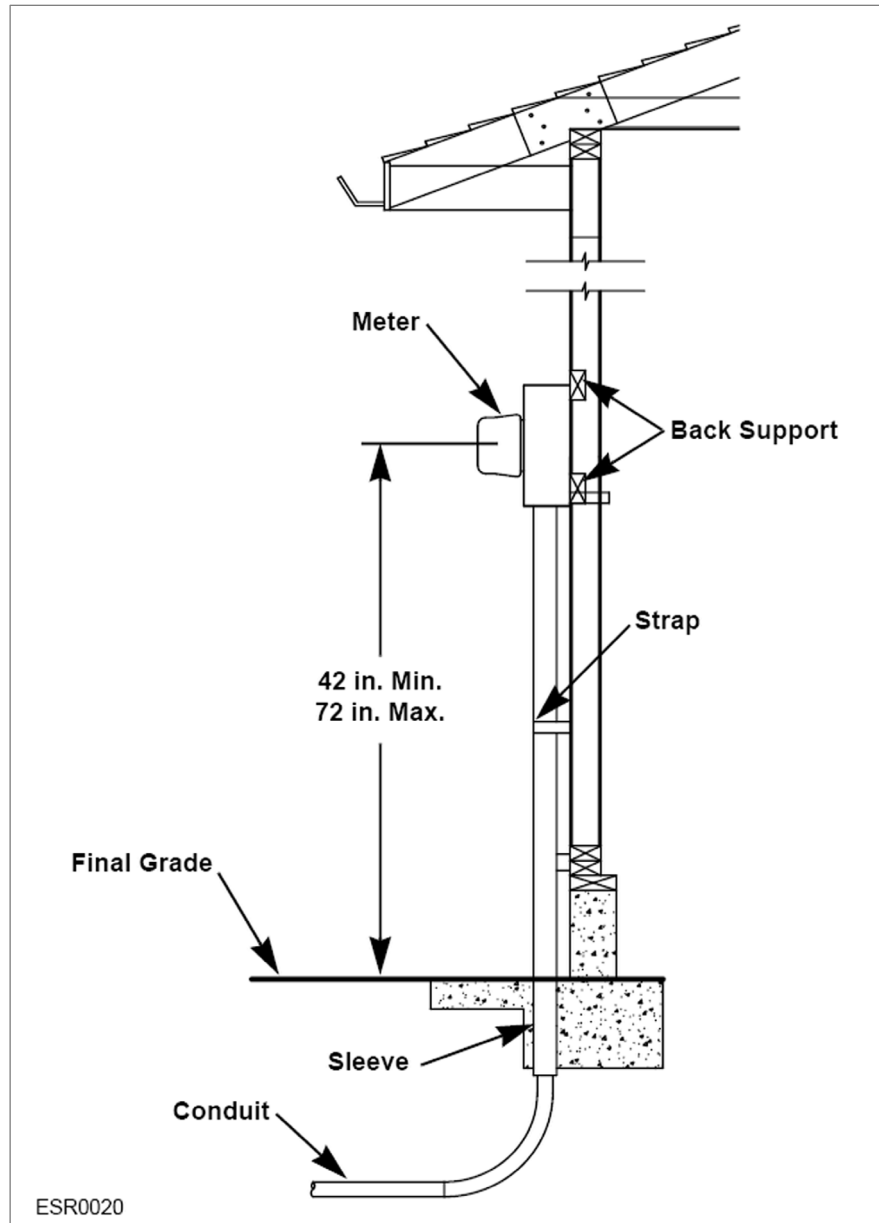
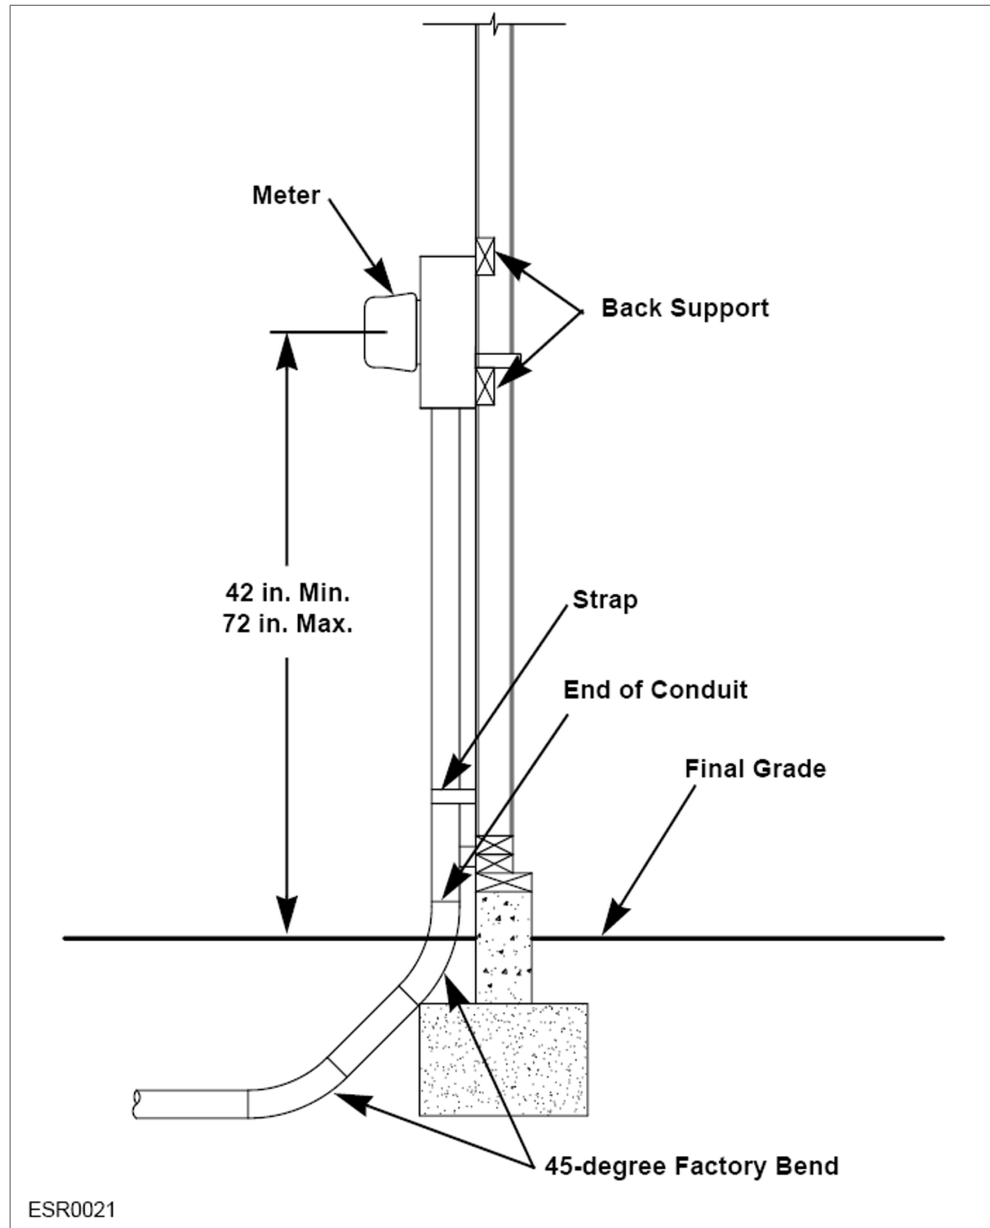
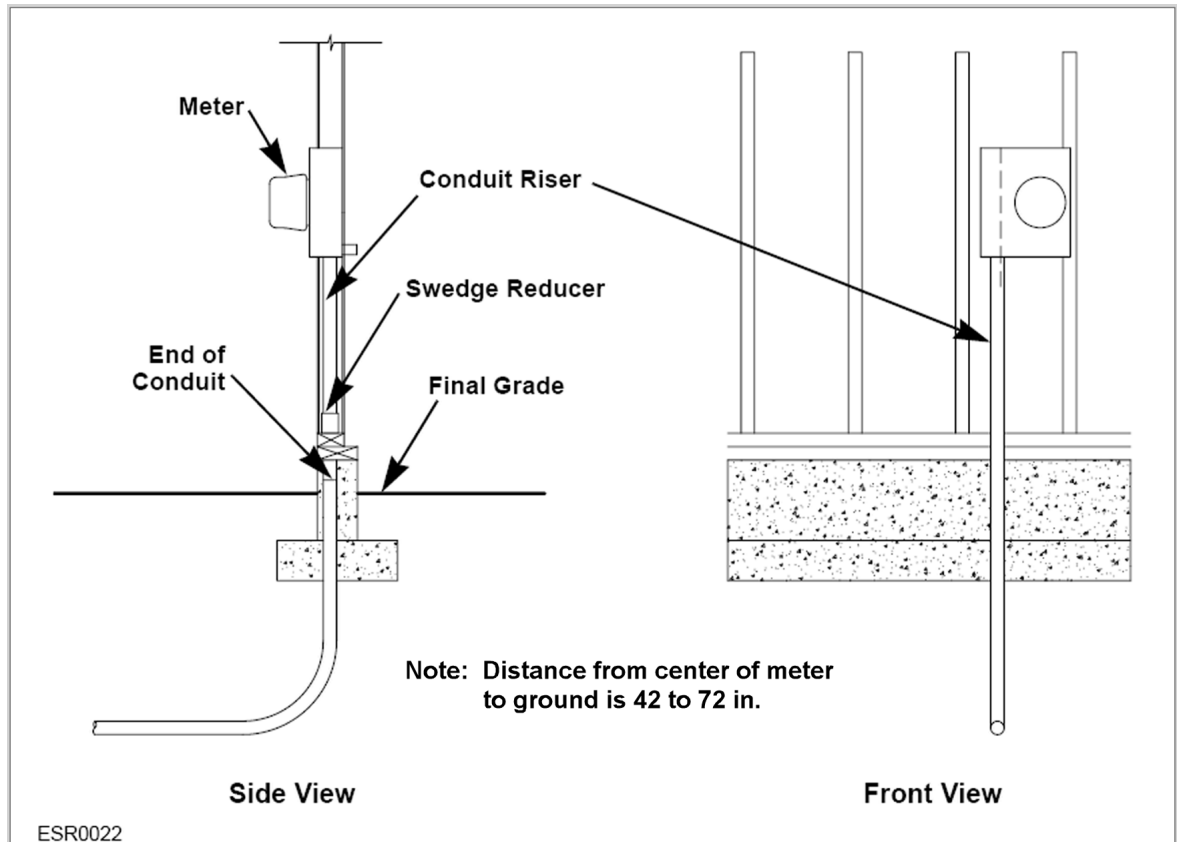

Figure 47: Surface-Mount Installation
Figure 48: Seismic Footing Design
Figure 49: Flush-Mount Installation
Figure 47 shows a surface-mount installation, and **Figure 48** shows the optional seismic footing design. **Figure 49** shows a flush-mount installation.
- The meter socket and conduit must be rigidly attached to the structure as shown in **Figure 47**. 2- x 4-inch back supports are required. The meter socket and conduit must be plumb when inspected. PGE will determine the exact location of the meter.
- No bends are allowed in the conduit riser between the meter socket and the underground sweep. If local codes do not allow conduit in the foundation or footing, a surface-mount meter must be installed. See **Figure 47**.
These requirements apply to a surface-mount installation such as the one shown in **Figure 47** and to the optional seismic footing design shown in **Figure 48**:
These requirements apply to a flush-mount installation, such as the one shown in **Figure 49**:
- No bends are allowed in the conduit riser between the meter socket and the underground sweep. **Figure 49** shows an installation with conduit in the foundation and footing.